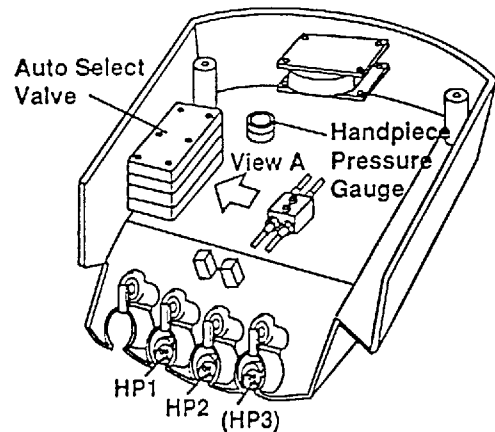
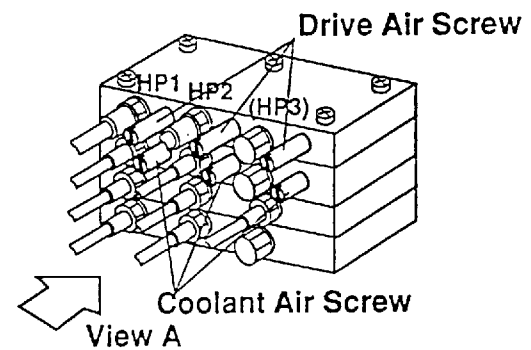

Fig. 3-6 Auto Select Valve and Pressure Gauge
Fig. 3-7 Auto Select Valve
- (4) Handpiece Drive Air Adjustment Screws (Fig.3-6 & Fig.3-7)
Setting The Optimum Condition (Fig.3-7)
- (5) Handpiece Coolant Air Adjustment Screws (Fig.3-6 & Fig.3-7)